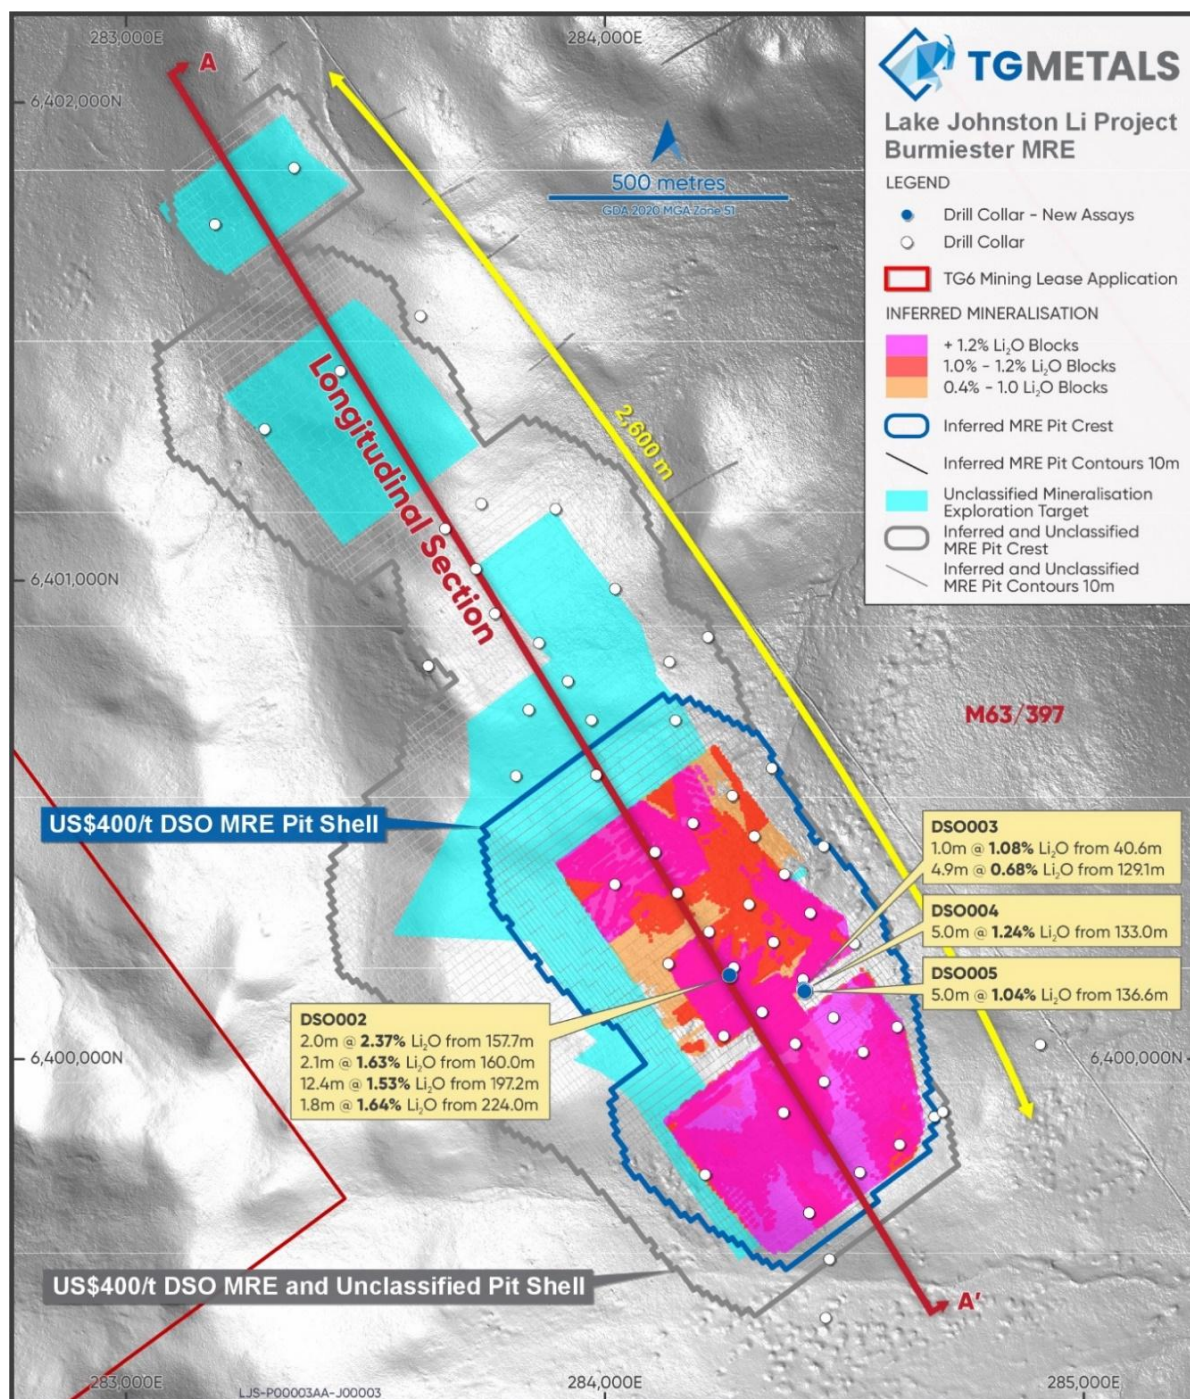

Figure 1 – Burmeister lithium pegmatite DD drilling showing lithium pegmatite intercepts. Datum: AMG Zone 51 (GDA94).
Assay results from diamond core drilling (DD) at the Burmeister lithium deposit have been received for 5 drillholes for a total of 759.9m. High Li₂O grades and widths up to 12.35 metres were confirmed (**Figure 1 and Table 1**).
This diamond core drill program infilled previous drilling on the Burmeister deposit (Figure 1) and was targeted to provide representative core for distribution to potential offtake and financing partners.